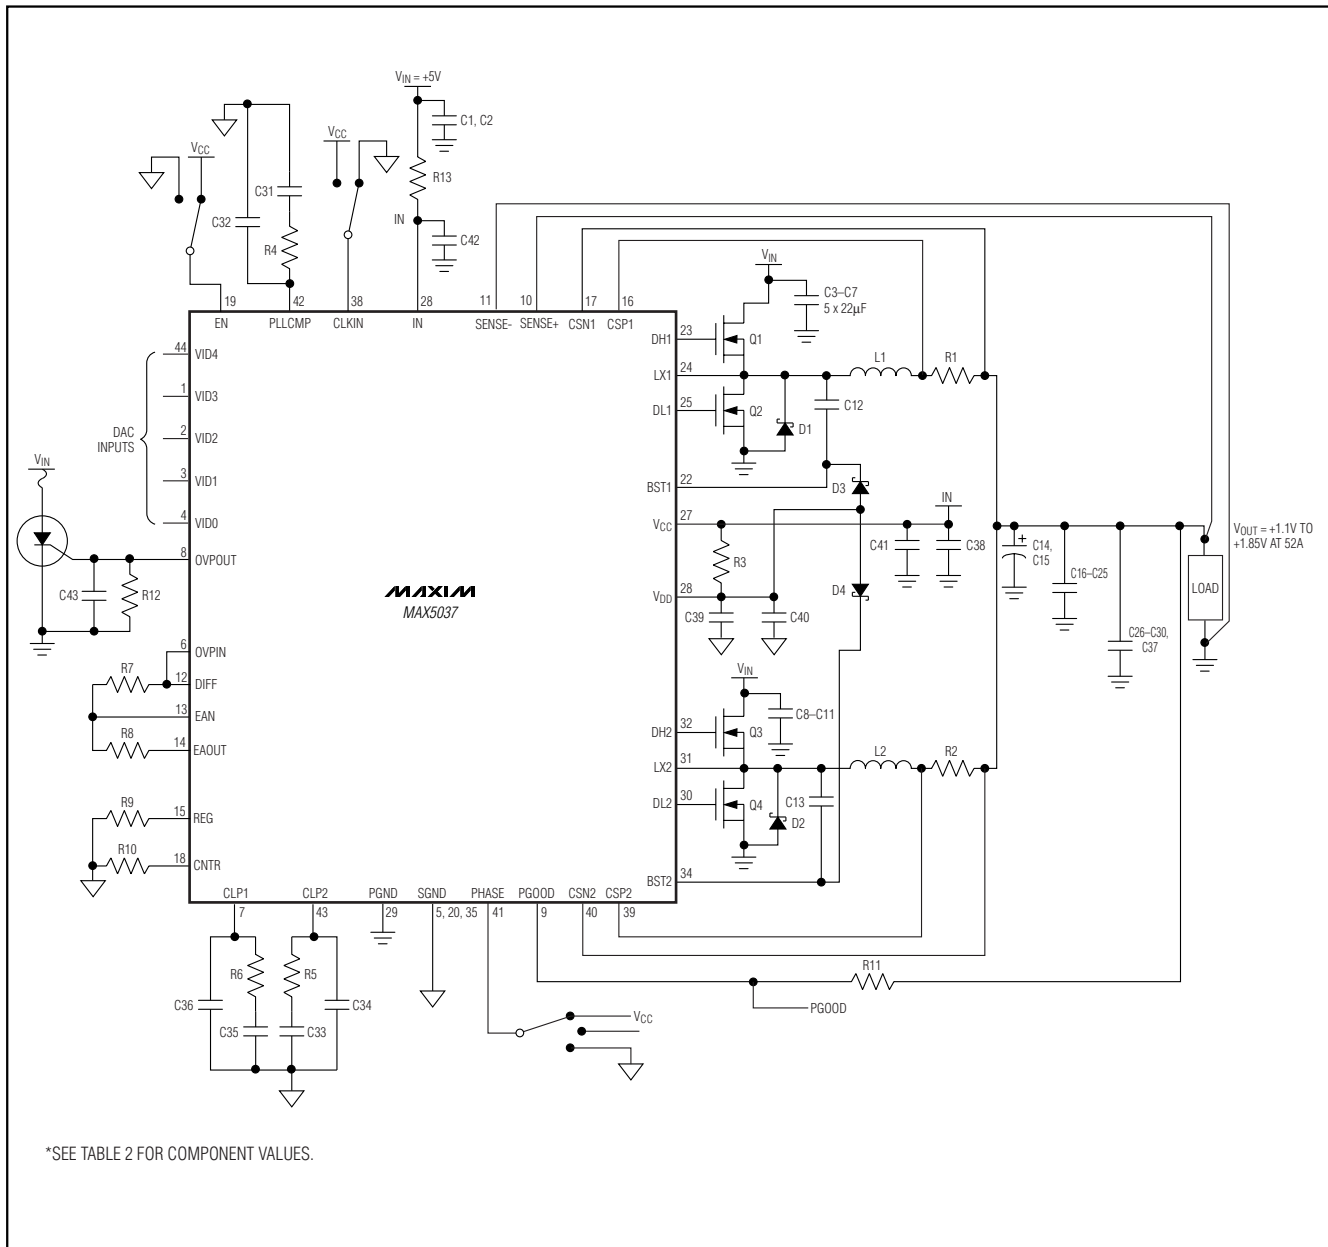

Figure 1. Typical VRM Application Circuit, $V_{IN} = +5V$
(Circuit of Figure 1, $T_A = +25^\circ\text{C}$, unless otherwise noted.)
The MAX5037 (Figures 1 and 2) average current-mode PWM controller drives two out-of-phase buck converter channels. Average current-mode control improves current sharing between the channels while minimizing component derating and size. Parallel multiple MAX5037 regulators to increase the output current
The MAX5037 accepts a wide input voltage range of +4.75V to +5.5V or +8V to +28V. All internal control circuitry operates from an internally regulated nominal voltage of 5V. For input voltages of +8V or greater, the internal V_{CC} regulator steps the voltage down to +5V. The V_{CC} output voltage regulates to 5V while sourcing up to 80mA. Bypass V_{CC} to SGND with 4.7μF and 0.1μF low-ESR ceramic capacitors for high-frequency noise rejection and stable operation (Figure 1).
The compensation network at the current-error amplifier, CLP1 and CLP2, provides an inherent soft-start to the VRM power supply. It includes a parallel combination of capacitors (C34, C36) and resistors (R5, R6) in series with other capacitors (C33, C35) (see Figure 1). The voltage at CLP_ limits the maximum current available to charge output capacitors. The capacitor on CLP_ in conjunction with the finite output-drive current of the current-error amplifier yields a finite rise time for the output current and thus the output voltage.
The phase-locked loop (PLL) synchronizes the internal oscillator to the external frequency source when driving CLKIN. Connecting CLKIN to VCC or SGND forces the PWM frequency to default to the internal oscillator frequency of 500kHz or 250kHz, respectively. The PLL uses a conventional architecture consisting of a phase detector and a charge pump capable of providing 20μA of output current. Connect an external series combination capacitor (C31) and resistor (R4) and a parallel capacitor (C32) from PLLCMP to SGND to provide frequency compensation for the PLL (Figure 1). The pole-zero pair compensation provides a zero at $f_z = 1 / [R4 \times (C31 + C32)]$ and a pole at $f_p = 1 / (R4 \times C32)$. Use the following typical values for compensating the PLL: R4 = 7.5kΩ, C31 = 4.7nF, C32 = 470pF. When changing the PLL frequency, expect a finite locking time of approximately 200μs.
The high-side (DH_) and low-side (DL_) drivers drive the gates of external N-channel MOSFETs (Figure 1). The drivers' high-peak sink and source current capability provides ample drive for the fast rise and fall times of the switching MOSFETs. Faster rise and fall times result in reduced cross-conduction losses. For modern CPU applications where the duty cycle is less than 50%, choose high-side MOSFETs (Q1 and Q3) with a moderate RDS(ON) and very low gate charge. Choose low-side MOSFETs (Q2 and Q4) with very low RDS(ON) and moderate gate charge.